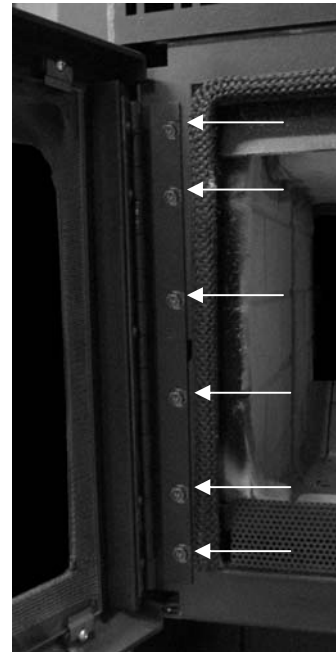

Figure 3 Hinge Adjustment on the Fireplace
5. If necessary, slightly loosen the screws holding the hinge to the fireplace facing (see Figure 3). Move the door with the hinge as desired. Retighten all the hinge screws on the fireplace.